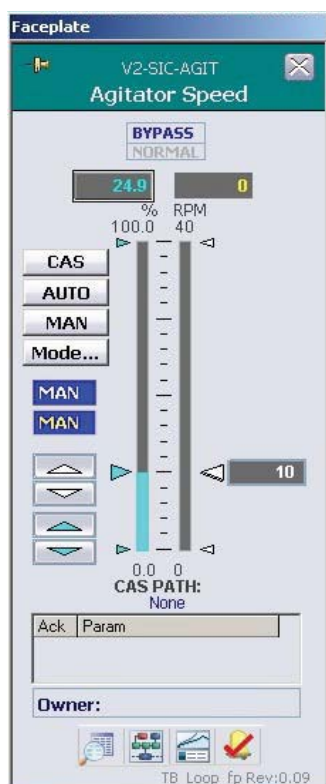

Figure 4.24. Setting the agitator speed using arrows on left.
2. To set the agitator speed, click the blue up/down arrows on the left of the faceplate (Figure 4.24).